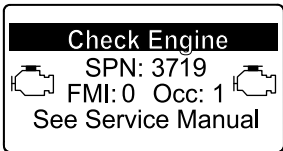

Figure 55
- Engine warning SPN 3719, FMI 0 (Figure 55)